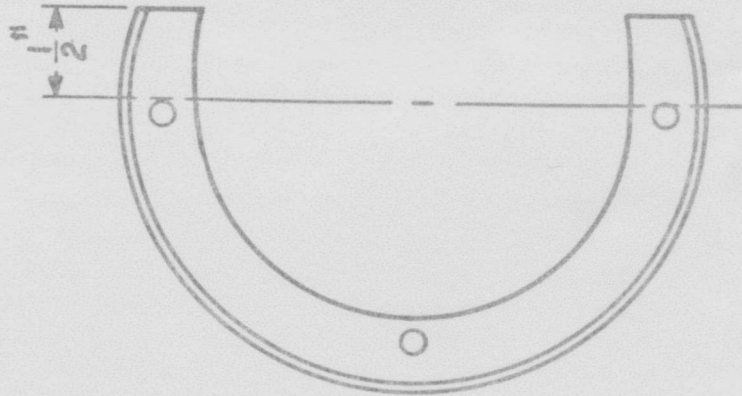

Fig. 4
3.02 When 6 type dials are used for replacement and where a 59A Dial Adapter is present, it will be necessary to alter the dial adapter by cutting to the approximate dimensions shown in Fig. 4. This may be done without removing the adapter from the housing, and when so altered may be used interchangeably with 4 and 5 type dials. See Section C34.301.